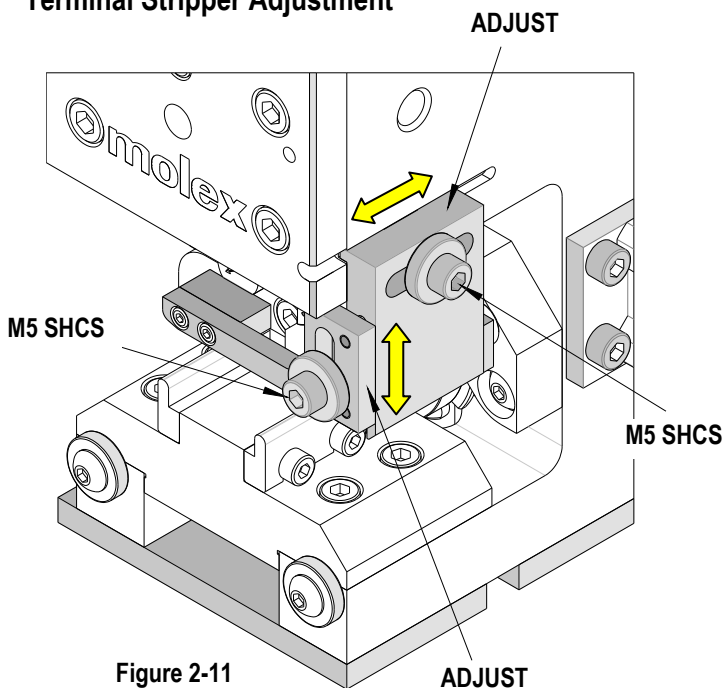

Figure 2-11
3. To adjust the stripper in and out, use a 4mm hex wrench to loosen the M5 SHCS on the side of the stripper. Move the stripper toward the punches, but not too close or it could interfere with the ram stroke. See Figure 2-11. Tighten the M5 SHCS when adjustment is complete.
4. To adjust the stripper up and down, use a 4mm hex wrench to loosen the M5 SHCS on the front of the stripper. Move the stripper down until it is just above the taped terminal on the anvils. See Figure 2-11. Tighten the M5 SHCS when adjustment is complete.